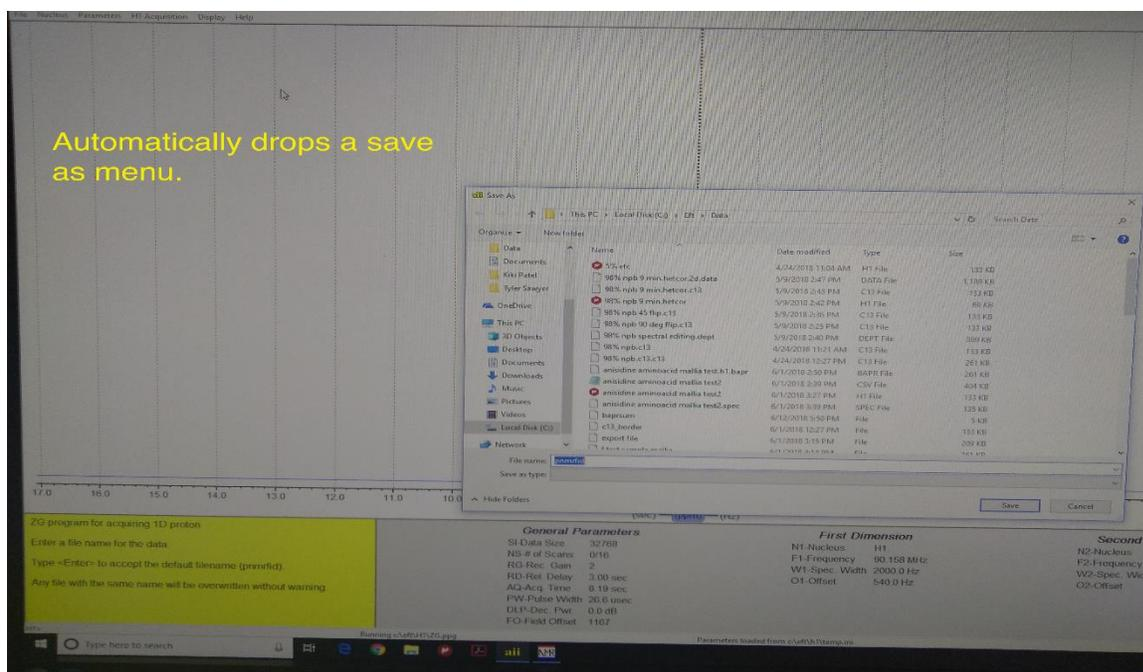

Figure 13. aii screen showing the pop-up regarding saving of the file.
15) Immediately following the ZG protocol, a save menu will appear as shown in Figure 13. Save the incorrect file with name, date, etc.